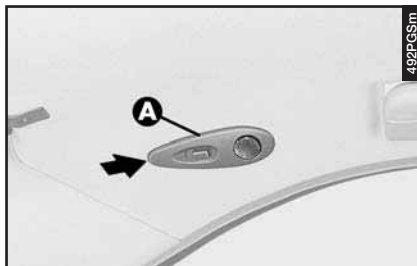

fig. 71
– Remove the roof light (**A-fig. 71**) levering in the point illustrated.